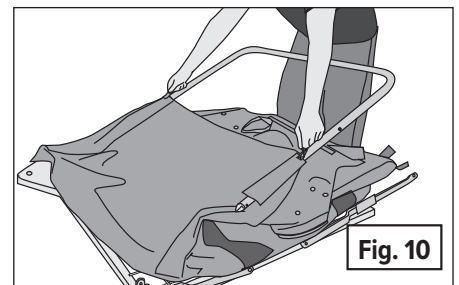

Fig. 10
3. **(Fig. 10)** Slide the side tube into the pockets on the Collector Bag. Slide the tube evenly for least resistance.